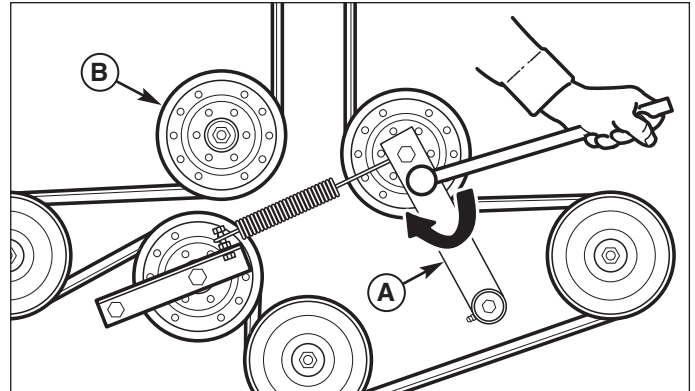

Figure 37. Mower PTO Belt
3. Using a 1/2" breaker bar, place the square end in the square hole located in the end of the idler arm (A, Figures 37). Carefully rotate the breaker bar clockwise, which will relieve the tension on the belt exerted from the idler arm.
6. Install the drive belt on the PTO pulley, the spindle pulleys and all idler pulleys except the stationary pulley (B, Figure 37). Carefully rotate the breaker bar clockwise and install the belt on the stationary idler pulley (B). Carefully release the tension on the breaker bar.